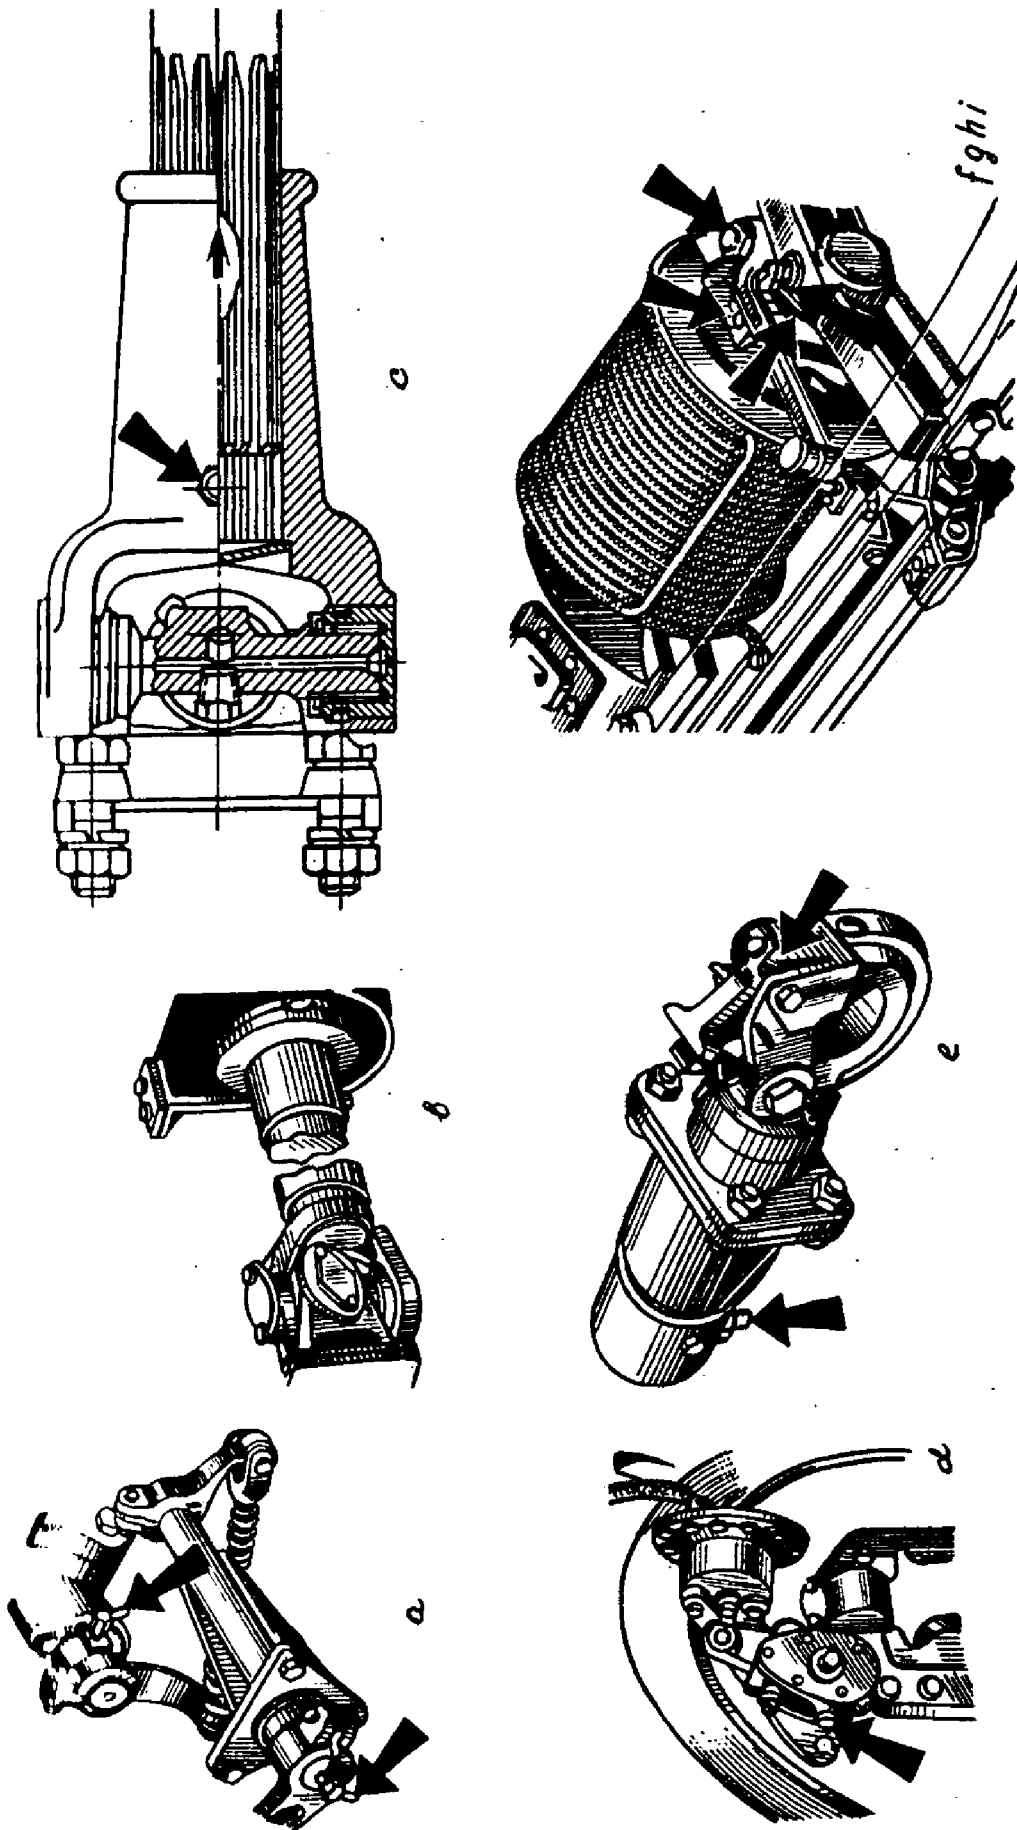

FIG.30. LUBRICATING POINTS FOR YC-1 GREASE, PRESS SOLID OIL "C" OR SOLID OIL "C"
37. Using the YC-1 grease (press solid oil), GOST 1033-51, press solid oil "C" or solid oil "C", GOST 4366-64 (Fig.30), grease: